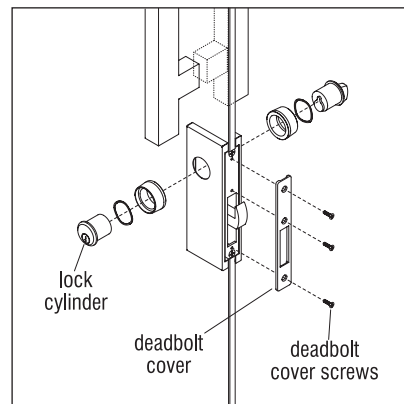

Figure 4
6. Complete the install of the sliding door lock housing by installing the lock cylinders and trim collars following the instructions included with the deadbolt. Lastly, orient the deadbolt cover into position as illustrated. The deadbolt cover fits in snug, so may need to be lightly tapped into place with a rubber mallet. Secure the deadbolt cover using the three screws supplied (Figure 4).